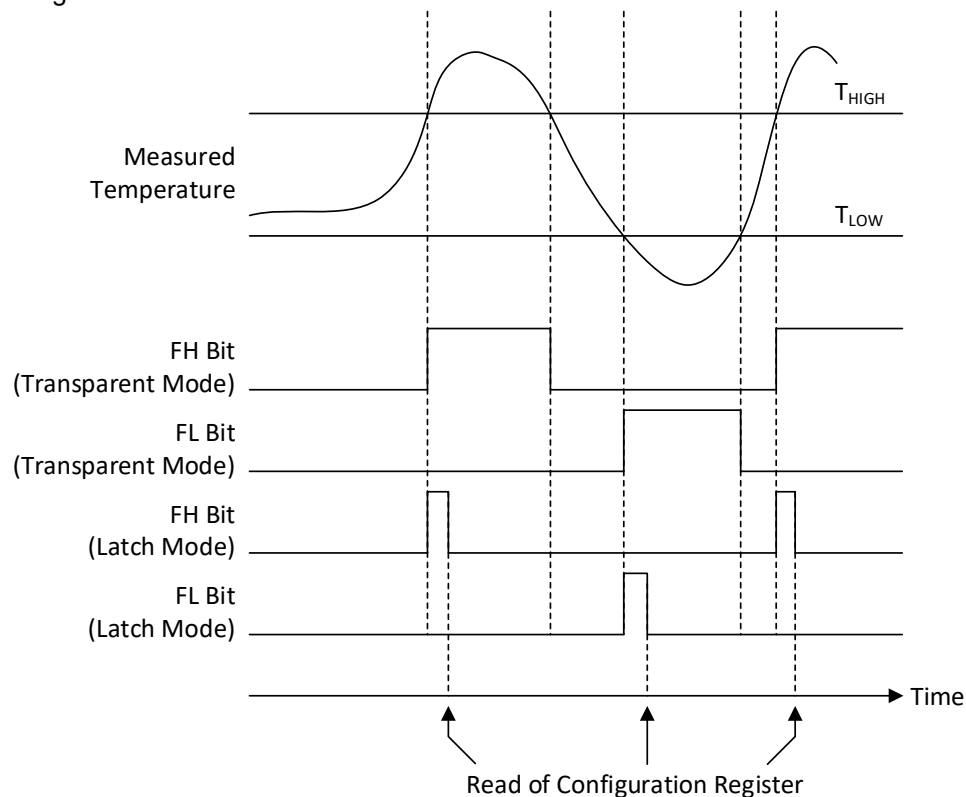

Figure 7-2. Temperature Flag Functional Diagram
The TMP144 contains a temperature alert function that monitors the device temperature and compares the result to the values stored in the temperature limit registers to determine if the device temperature is within these set limits. As shown in Figure 7-2, if the result of the temperature conversion is greater than the value in the temperature high limit register, the flag-high bit (FH) in the configuration register is set to '1'. If the result of the temperature conversion register is less than the value in the temperature low limit register, the flag-low (FL) in